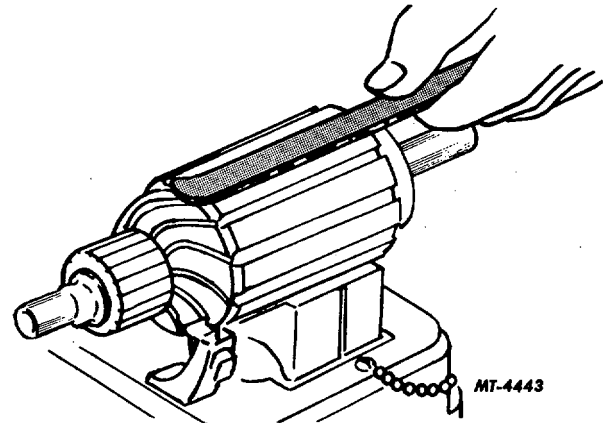

Fig. 8. Testing Armature for Short Circuits
- a. Short circuits relocated by turning the armature in a growler while holding a steel strip on the armature. The steel strip will vibrate on the area of the short circuit, Fig. 8.